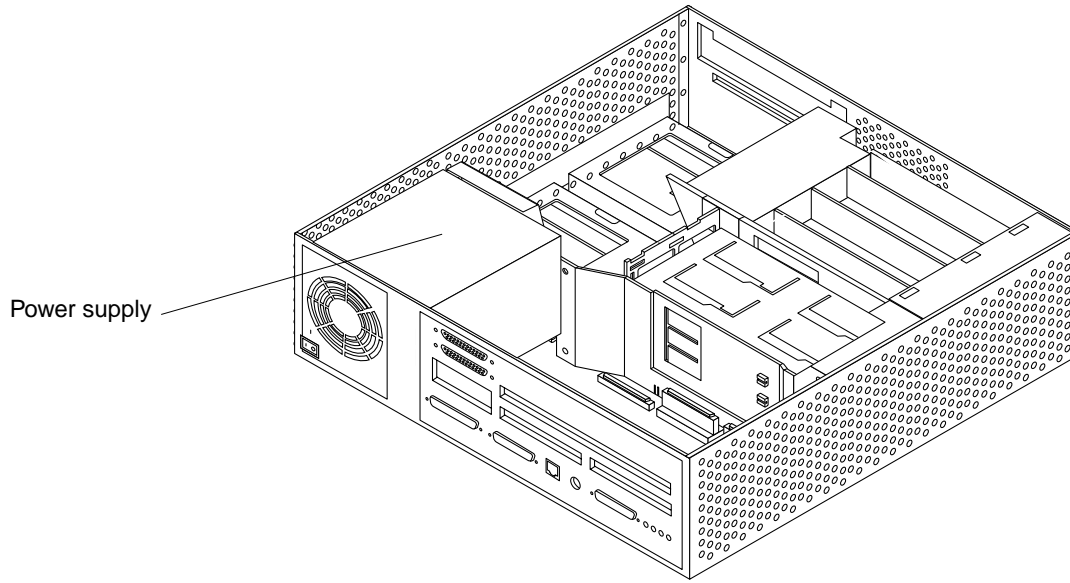

Figure 2-6 Power Supply Location
2. Attach the adhesive copper strip to the metal casing of the power supply inside your system (Figure 2-6).